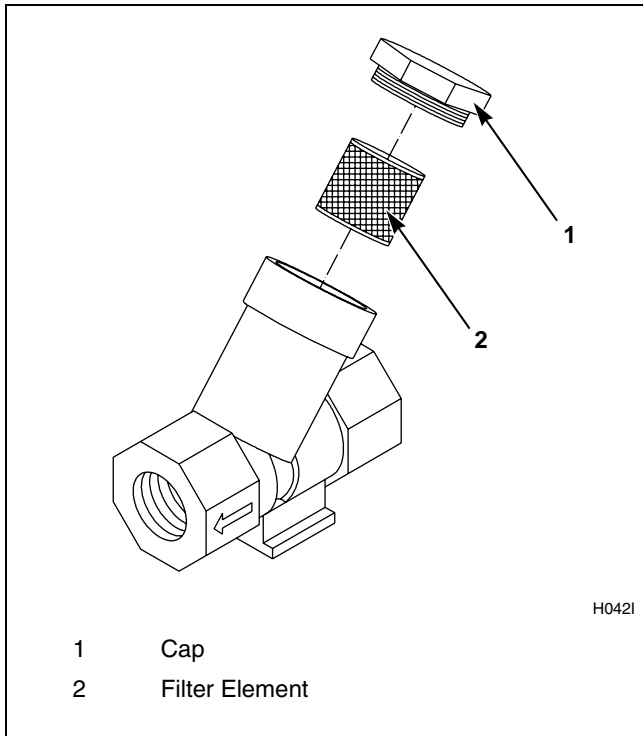

Figure 13
6. Clean customer-supplied steam filter, where applicable. Refer to *Figure 13*.